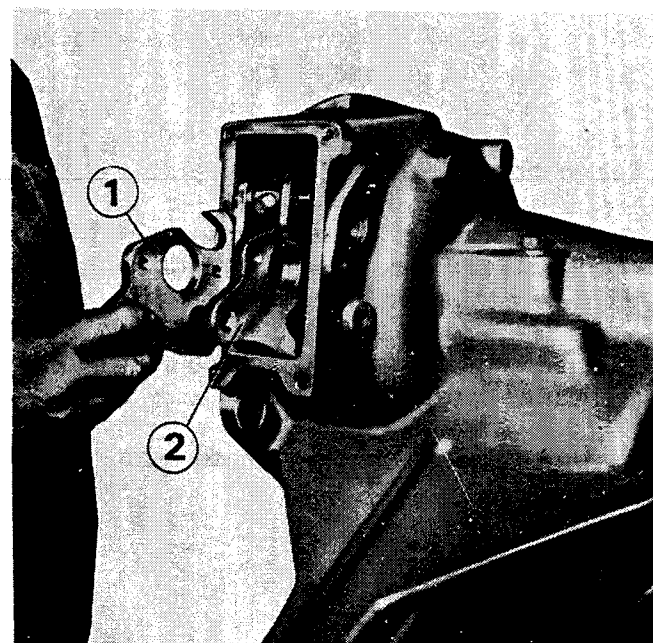

Fig. 16 — REMOVING SUPPORTING PLATES
7. Remove supporting plates, No. 1 and 2, Fig. 16.